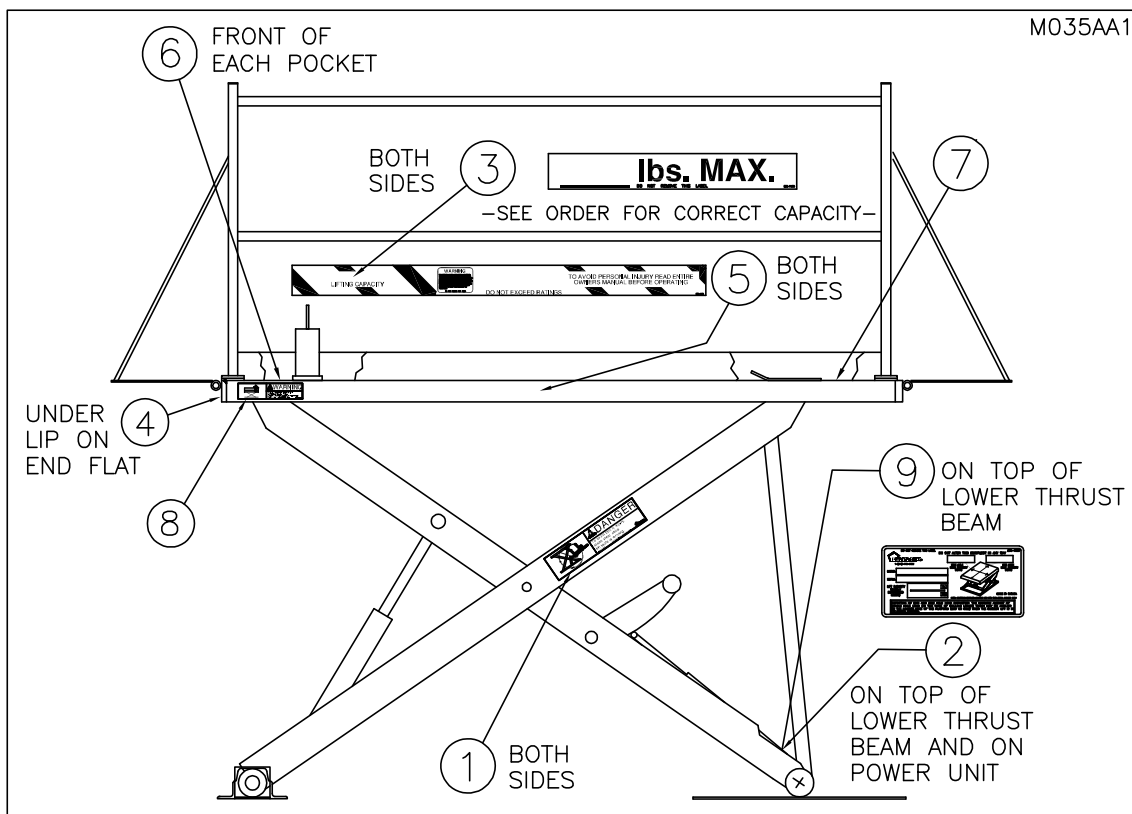

Figure 2: Safety Label and Decal Locations
2. **NEVER EXCEED THE MAXIMUM RATED CAPACITY OF THE DOCK LIFT.** (i.e. The maximum load for a 4,000 lb. rated unit is 4,000 lb. with the load center at the center of the Platform.) The retaining cradles and wear plates **MUST** be installed (See “Figure 4: Position of Retaining Cradles and Wear Plates” on page 7.) for single axle load capacity across the ends of 75% of the rated capacity and single axle load across the sides of 50% of the rated capacity. Refer to the specification plate (See “Figure 2: Safety Label and Decal Locations” on page 3) for each Dock Lift’s particular rating.
NOTE: In some instances, product configuration and / or product options may dictate that the product labels will not be placed as indicated on the drawing ("Figure 2: Safety Label and Decal Locations" on page 3). Different label locations will be selected at the factory, when required, to avoid an impaired view of the labels. Note the label locations as supplied on the product, when it is received to accommodate future label replacement requirements.